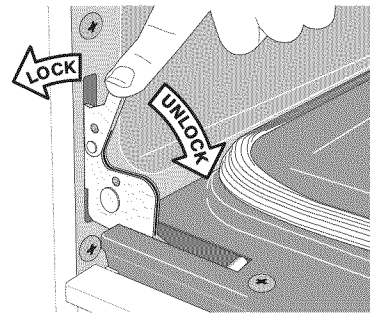

Figure 43: Hinge lock/unlock positions
2. Pull the door hinge locks on both left and right door hinges down from the oven frame completely towards the oven door (Figure 43). A tool such as a small flat-blade screwdriver may be required.
4. Push the door hinge locks up towards and into the oven frame on both left and right oven door hinges (Figure 43) to the locked position; then, close the oven door.